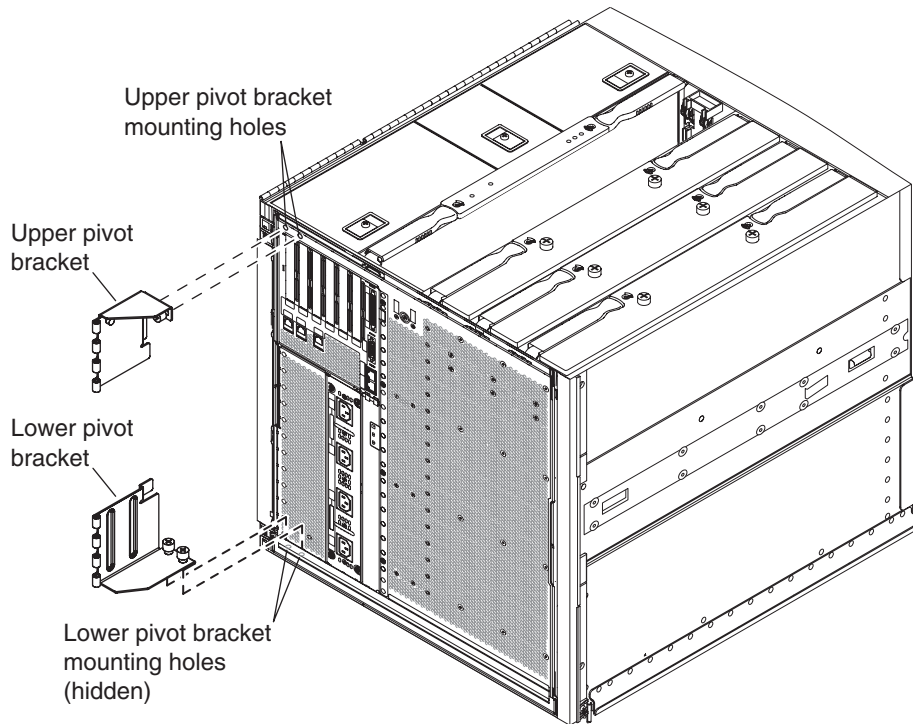

FIGURE 1-18 Upper/Lower Pivot Bracket Mounting Holes
3. Secure the pivot bracket to the upper left hand side of the system chassis using the two captive screws, FIGURE 1-18.
5. Secure the pivot bracket to the lower left hand of the system chassis using the two captive screws, see FIGURE 1-18.